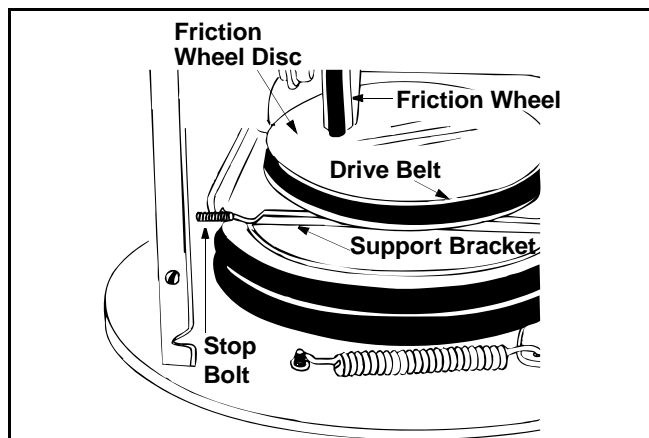

Figure 30
- Using a wrench, loosen the nut on the stop bolt until the support bracket rests on the auger pulley. See Figure 30.
NOTE: The support bracket must rest on the stop bolt after the new belt has been assembled. See Figure 30.